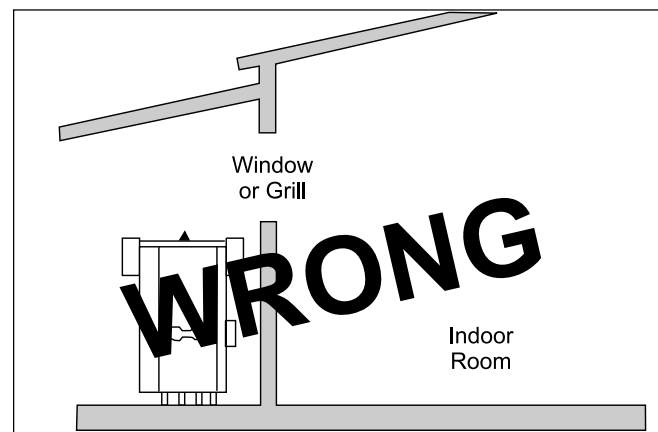

Figure 4. Incorrect Outdoor Installation.
3. Do not locate the heater in an enclosure or wall recess. Avoid location where wind deflection off structures might cause down draft. When such wind conditions are possible, locate the heater at least three (3) feet from the structures.
4. Never install the heater under any kind of roof overhang. Do not locate the heater below or adjacent to any doors, windows, louvers, grills, etc. which communicate in any way with an inhabited area of a building. Even though such communication might be through another structure such as a garage or utility room (see Figure 4).